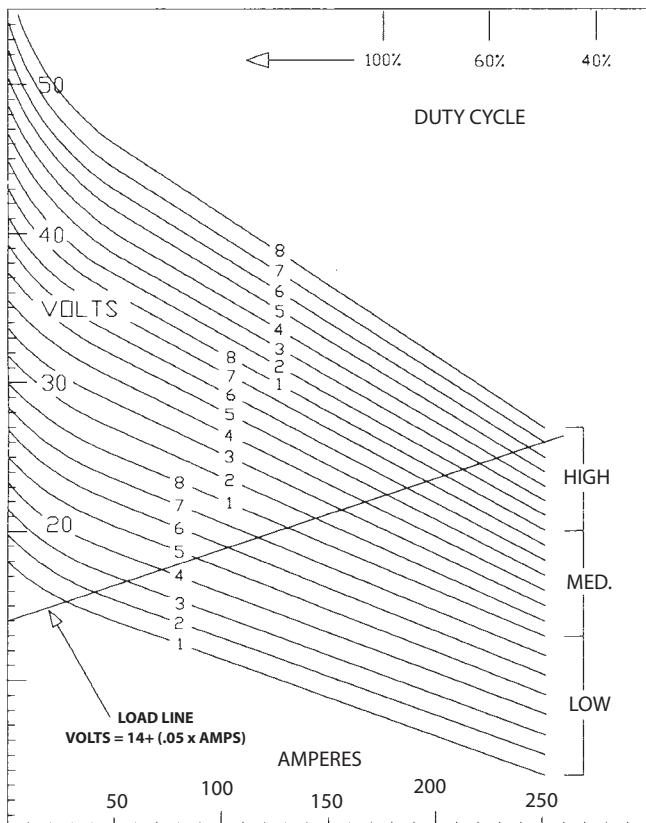

Figure 4.2.6 VOLT/AMPERE CURVES
**4.2.6 VOLT/AMPERE CURVES (Figure 4.2.6)**